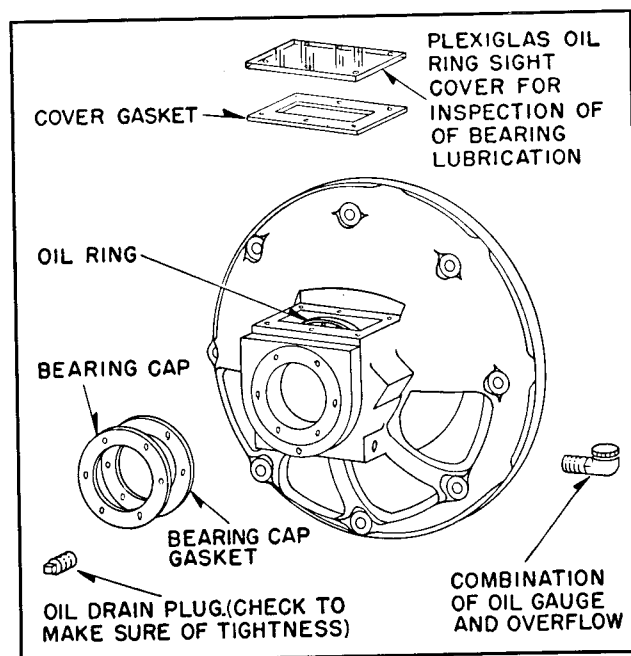

FIG. 5. Detail of Sleeve Bearing Bracket
Lubrication. Before starting the machine fill both oil reservoirs through the combination overflow gauge and filling device with best quality clean dynamo oil. (See Fig. 5.) The oil used should have a viscosity of from 180 to 220 SSU (equivalent to S.A.E. #10). No oil should be poured in the top of the brackets through the oil ring slot cover of the bracket.
1. Drain oil by removing drain plugs from bearing housing. See Figs. 5 and 6.